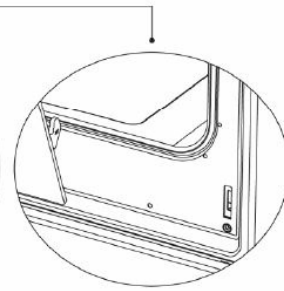

Figure 9.2
- For easier removal of the oven door, when it comes close to the closed position, hold the cover with two hands as in Figure 9.2, and pull upwards.